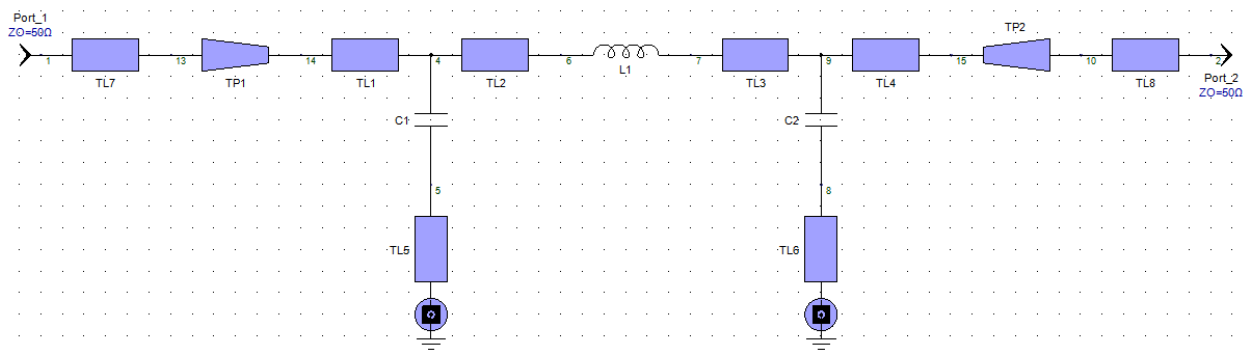

Fig 2: Example LPF Advanced TLINE Schematic
6) Convert the schematic into Advanced TLINE, using the substrate you added in Step 4. Make sure it adds “discos” in between the two types of transmission lines. Your final schematic should look similar to Fig. 2 (it doesn’t have to be exactly the same, especially regarding the tapered discs).